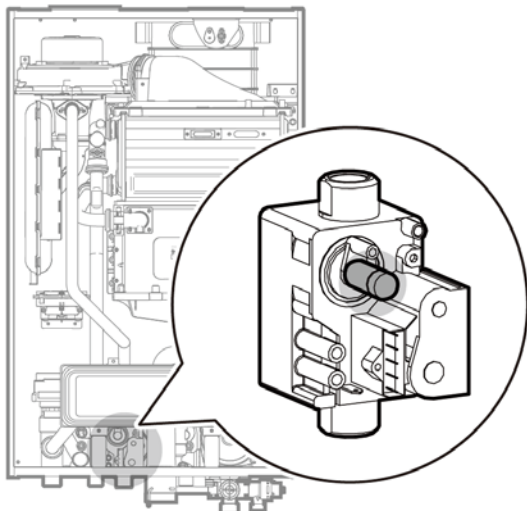

Figure 8. Set screw location
- a. Loosen the screw, rotate the plate, and then remove the gasket to access the emissions monitoring port as shown in Figure 8.
- b. Insert the analyser into the port (Figure 8).